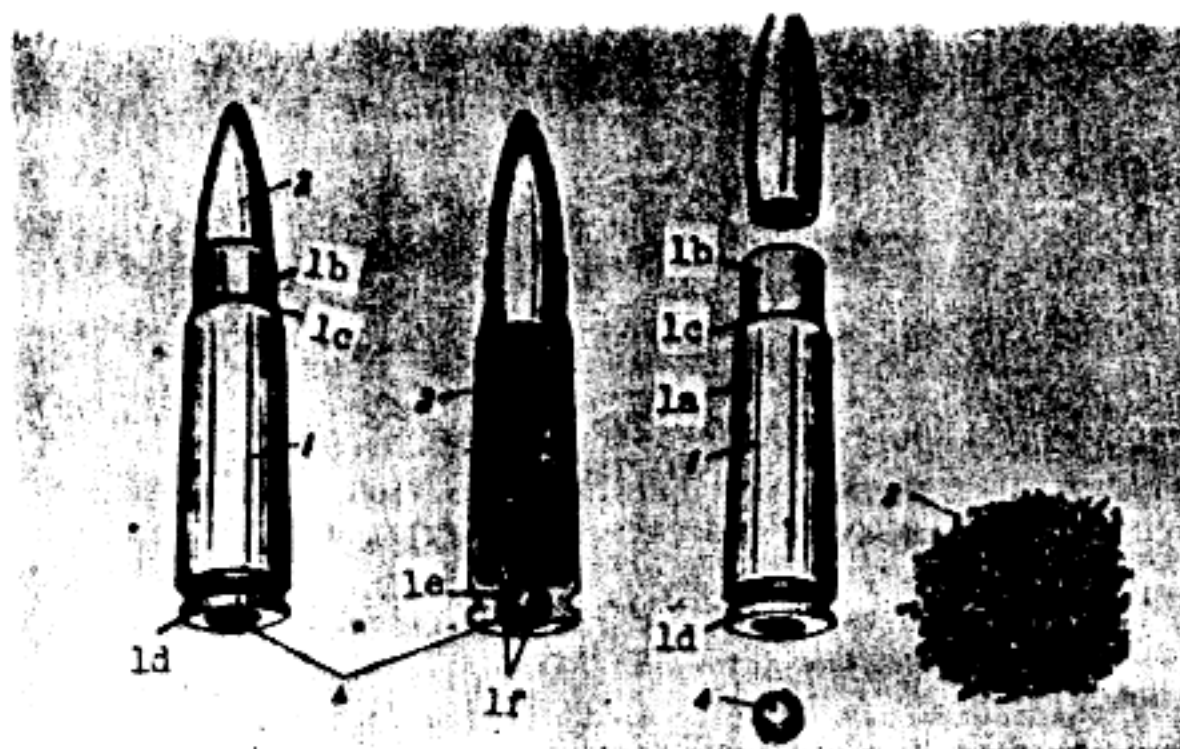

Figure 94. Service round. 1-cartridge case; 1a-body; 1b-mouth; 1c-shoulder; 1d-rim; 1e-anvil; 1f-vents; 2-bullet; 3-propellant; 4-primer.
The service round (fig. 94) consists of a cartridge case (1), bullet (2), propellant (3) and primer (4).